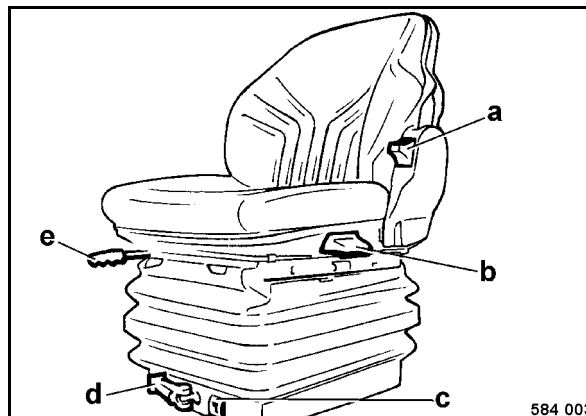

Fig. 70
- To adjust the seat in longitudinal direction disengage lever e (Fig. 70) upwards and push the seat forward or back.